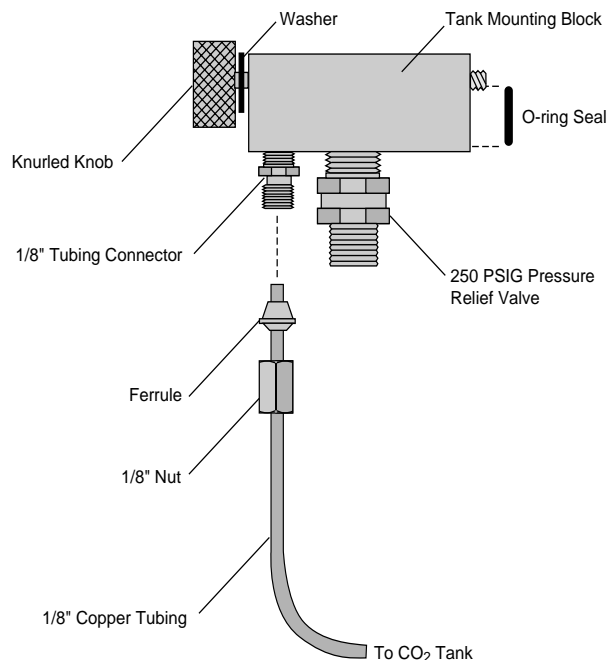

Figure 1. Insert tubing through nut and ferrule. Note proper orientation of ferrule.
3. Insert a length of 1/8" copper tubing through the 1/8" connector nut and the ferrule (Figure 1). **Important:** Note the orientation of the ferrule. One of the tapered ends of the ferrules is longer than the other; the long end must be oriented toward the connector on the mounting block. When the nut is tightened onto the connector, the ferrule will be permanently crimped to the copper tubing, and you will not be able to remove it.